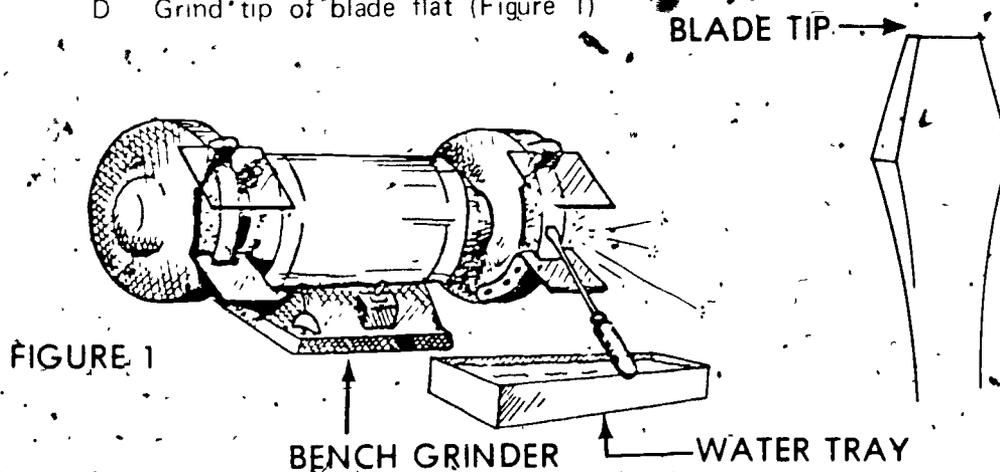

FIGURE 1
- D. Grind tip of blade flat (Figure 1)